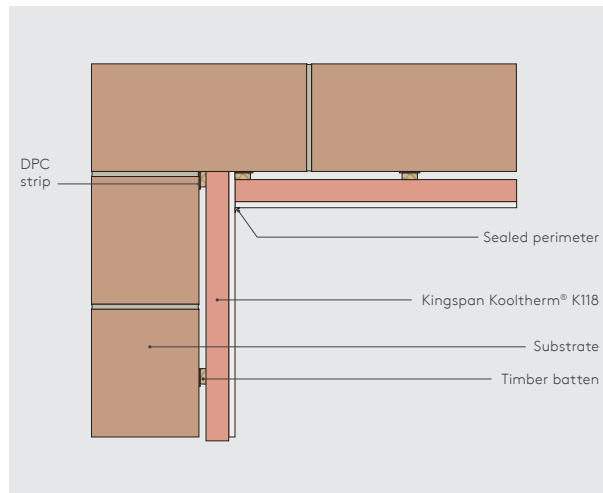

Figure 10: Internal corner detail
- For external corners (including reveals), the lining should run past the corner and the insulating backing of Kingspan Kooltherm® K118 should be cut back to create a junction (see Figures 10 & 12). Sheets should be cut and rebated to allow a plasterboard / plasterboard joint at the angle (see Figures 10 & 11).
- Ensure sheets are lightly butted and air gaps minimised to reduce the risk of cold bridging (see Figures 10 & 12). Any air gaps should be sealed with flexible sealant or equivalent, or a combination of flexible polyurethane foam and flexible sealant or equivalent.